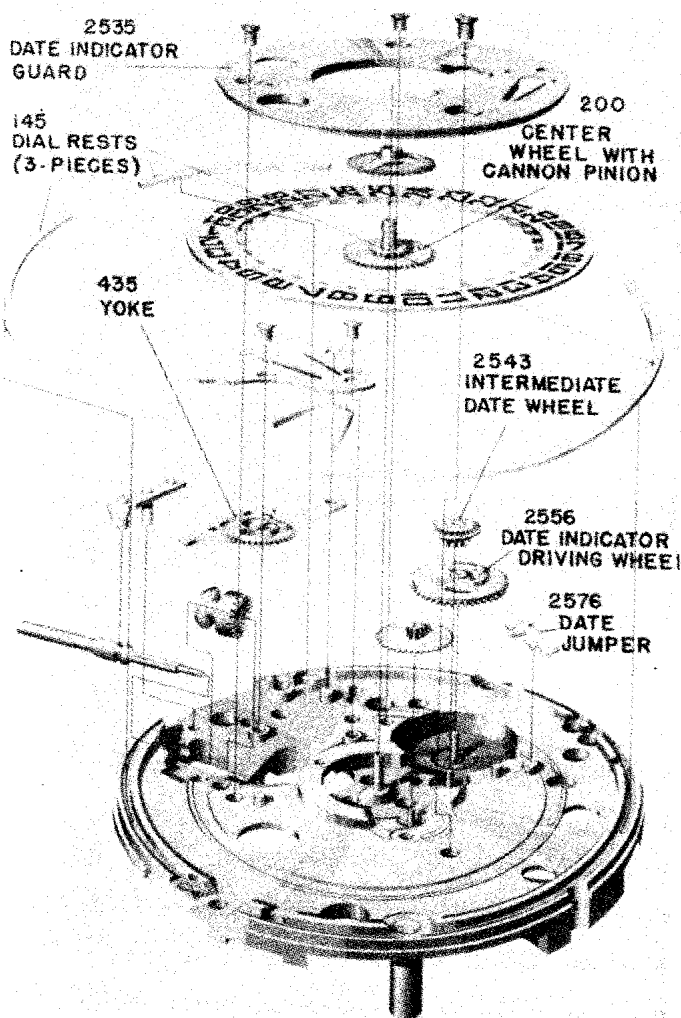

FIGURE 11
Now turn to Figure 11. Remove the date indicator by removing its three screws. Remove the date indicator guard (2535), then the date jumper (2576), the date indicator, the date indicator driving wheel (2556), and the intermediate date wheel (2543). Remove the minute wheel and then the center wheel combination cannon pinion (200).
Now turn the plate over on the movement rest. Grease the spindles of the yoke (435) and the setting lever. Replace the hand setting stem, clutch wheel, setting lever, yoke and yoke spring. Replace the setting lever spring with its two screws (Figure 11).
With any good watch oil, lubricate the center pipe, the pivot shank of the minute wheel, the spindle of the intermediate date wheel and the spindle of the date-indicator driving wheel. (All are shown in Figure 11.)